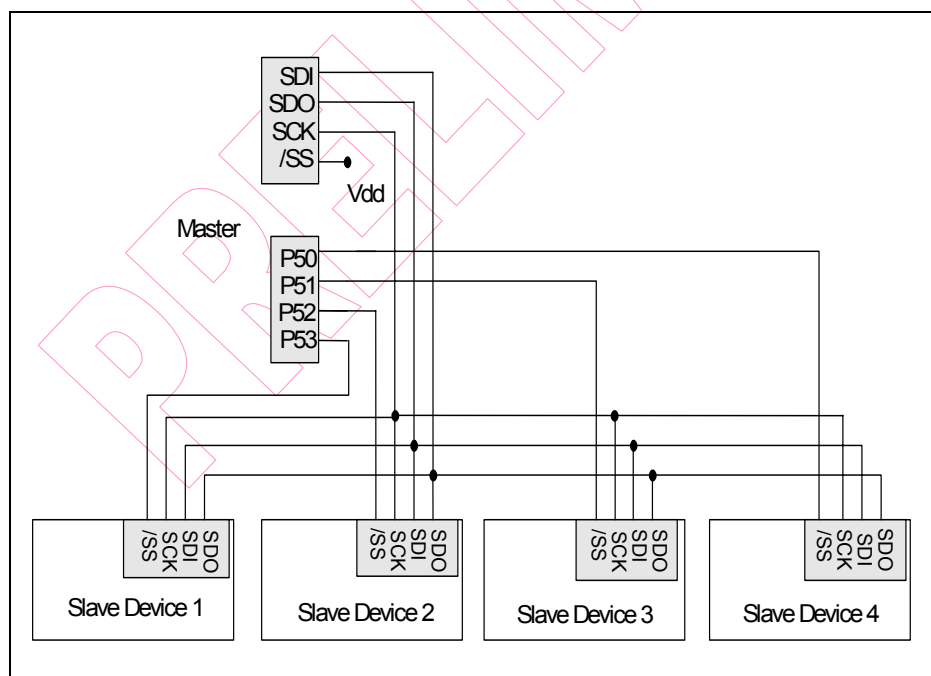

Fig. 6-8 SPI Configuration of Single-Master and Multi-Slave
- Global interrupt is enabled by the ENI instruction and is disabled by the DISI instruction. Refer to Fig. 6-8 (Interrupt Input Circuit) under Section 6.6 (Interrupt).